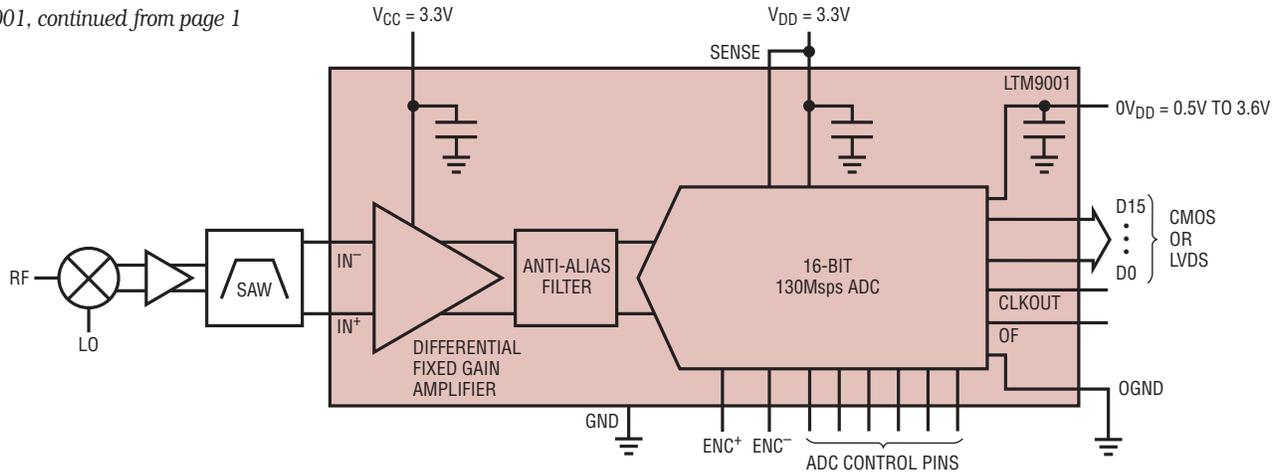

Figure 1. A typical application and simplified block diagram of the LTM9001
signals with an intermediate frequency (IF) range up to 300MHz. Figure 1 shows a typical application.